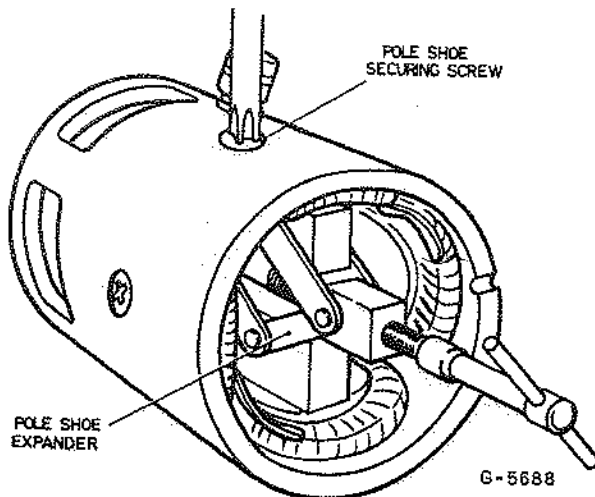

Fig. 11 - Tightening Pole Shoe Retaining Screws Using Pole Shoe Expander
(1) Unscrew the four pole-shoe retaining screws using a wheel-operated screw-driver. Remove the insulation piece which is fitted to prevent the inter-coil connectors from contacting with the yoke.
(2) Draw the pole shoes and coils out of the yoke and lift off the coils.
(3) Fit the new field coils over the pole shoes and place them in position inside the yoke. Ensure that the taping of the field coils is not trapped between the pole shoes and the yoke.
(4) Locate the pole shoes and field coils by lightly tightening the retaining screws.
(5) Replace the insulation piece between the field coil connections and the yoke. Finally, tighten the screws by means of the wheel-operated screwdriver while the pole pieces are held in position by a pole shoe expander, (see Fig. 11), or a mandrel of suitable size.